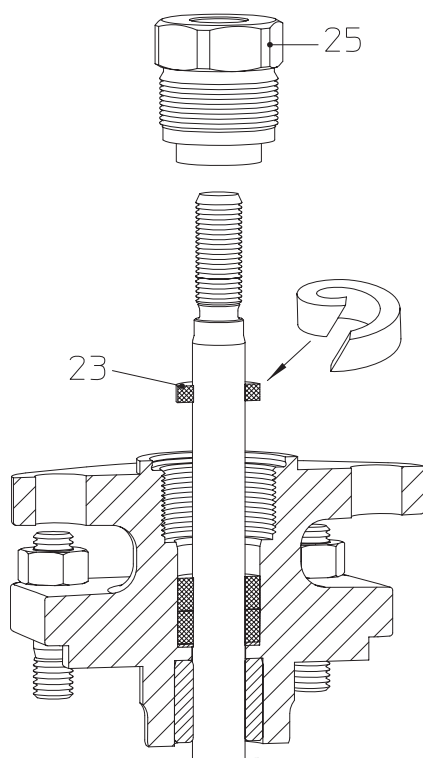
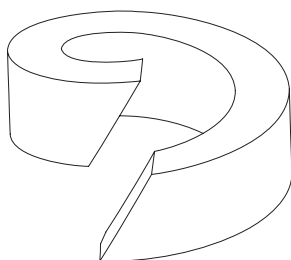

Fig. 19: Stuffing box packing
Fig. 21: Split packing ring
- Insert new packing ring as shown in Fig. 19 - Fig. 21.
If a split packing ring is used, cut with a chamfer as shown in Fig. 21.